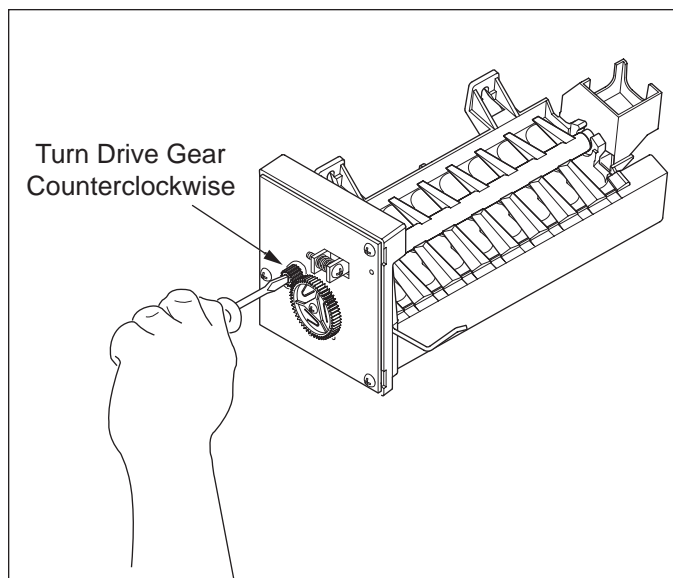

Figure 6-13. Manually Start Icemaker
2. With a flat-blade screwdriver, turn the drive gear counterclockwise until the holding switch is activated, completing the circuit to the drive motor (this will be about a 1/8 turn). (See Figure 6-13) The icemaker will then complete its cycle automatically.